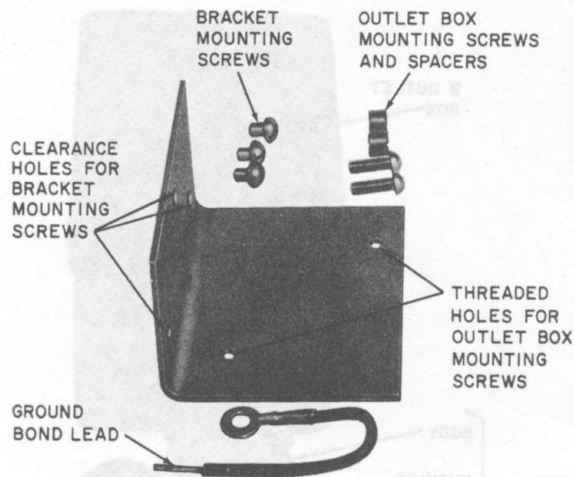
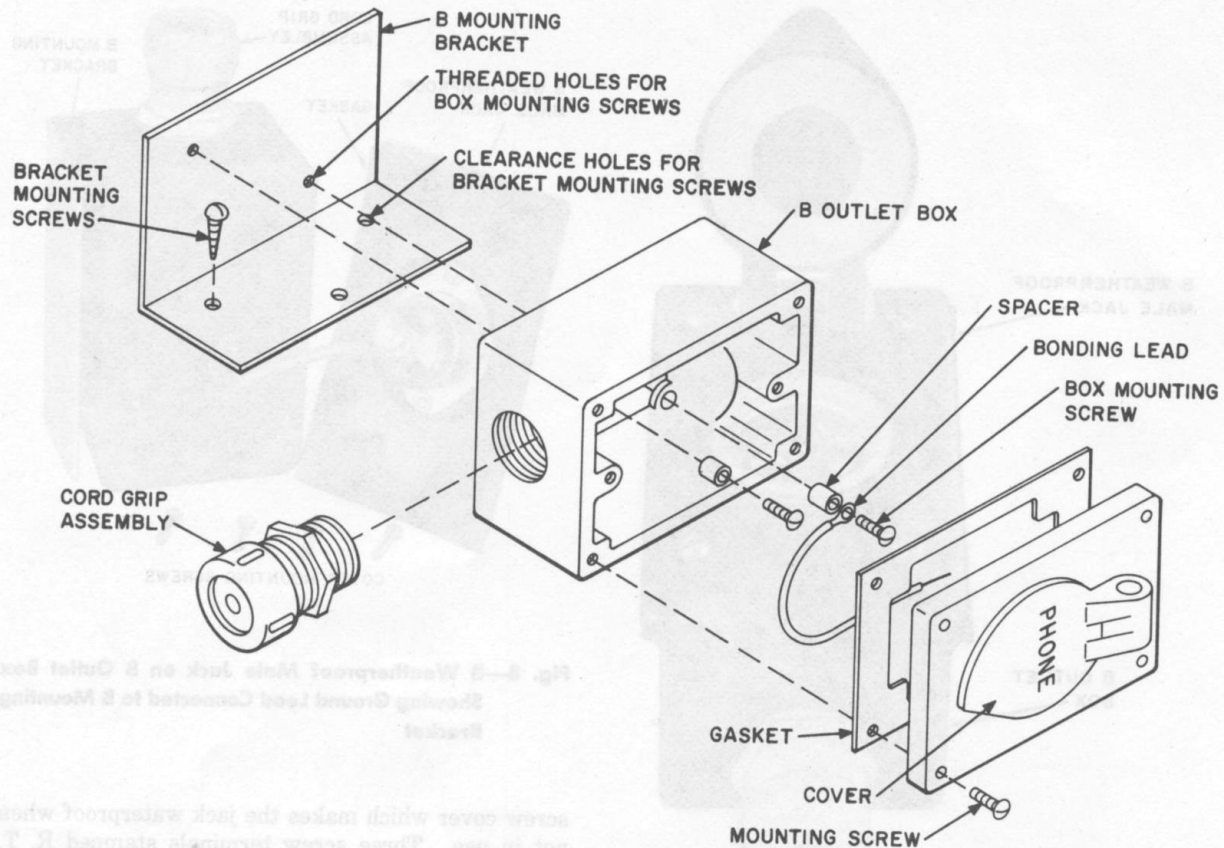

Fig. 4—B Mounting Bracket
Fig. 9—Assembly of B Weatherproof Male Jack to B Outlet Box and B Mounting Bracket
- Bracket, Mounting, B (for mounting outlet box on RV, Fig. 4)
2.04 The B mounting bracket (Fig. 4) is used to mount the B outlet box on recreational vehicles. It consists of a stainless steel angle-bracket with three clearance holes on one side for mounting to trailer tongue and two threaded holes on the other side for mounting the B outlet box. Included are three stainless steel thread cutting screws for mounting the bracket and two stainless steel screws with spacers for mounting the B outlet box on the B mounting bracket. A pigtail lead is included to connect between the center ground terminal of the B weatherproof male jack and one of the outlet box mounting screws to provide a ground bond to the vehicle frame (Fig. 9).
- One B mounting bracket used to mount outlet box on vehicle (Fig. 9)
connected as shown in Fig. 9 to provide a ground bond to the vehicle chassis.